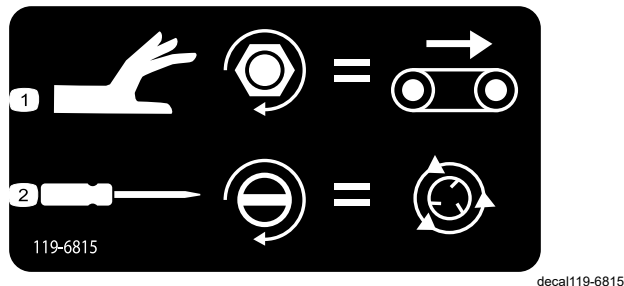

Figure 47
- To adjust the floor speed (Figure 47), turn the knob clockwise. Use the maximum-floor speed of the color-coded operation system when you have no hydraulic flow. This setting is helpful when the hopper is full of sand.
- To adjust the spinner speed (Figure 47), use a flat-head screwdriver to increase spinner speed by turning the screw clockwise or decrease spinner speed by turning the screw counterclockwise.